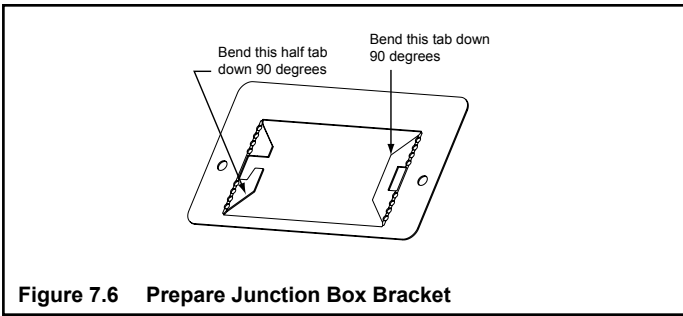

Figure 7.6 Prepare Junction Box Bracket
- Attach the junction box bracket to the junction box as shown in Figures 7.6 - 7.10.